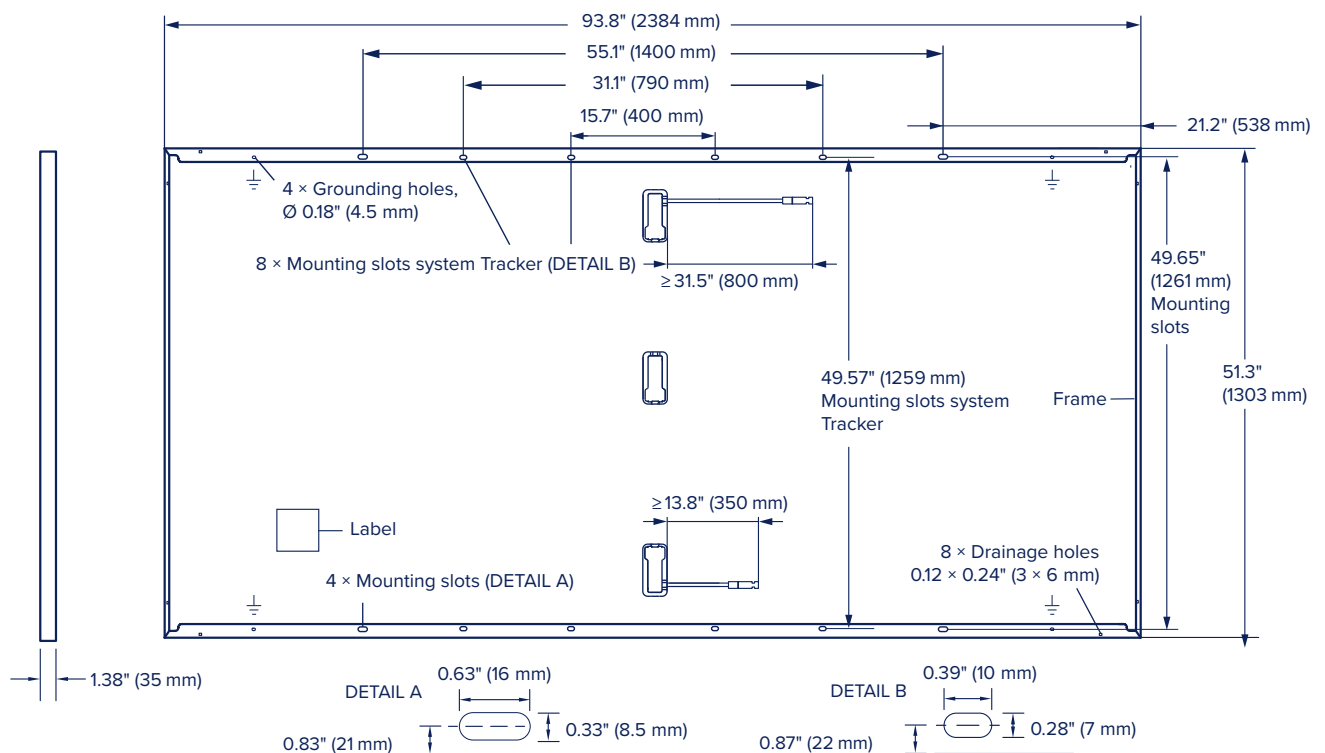

Fig. 1: External dimensions and components for Q.PEAK DUO ML-G12S.3/BFG, Q.PEAK DUO ML-G12S.P3/BFG, Q.PEAK DUO ML-G12S.7/BFG and Q.PEAK DUO ML-G12S.d/BFG.
- Clamp position: center of contact area in the axis of the mounting slots (Detail A, Fig.1) or closer to the hollow chamber.